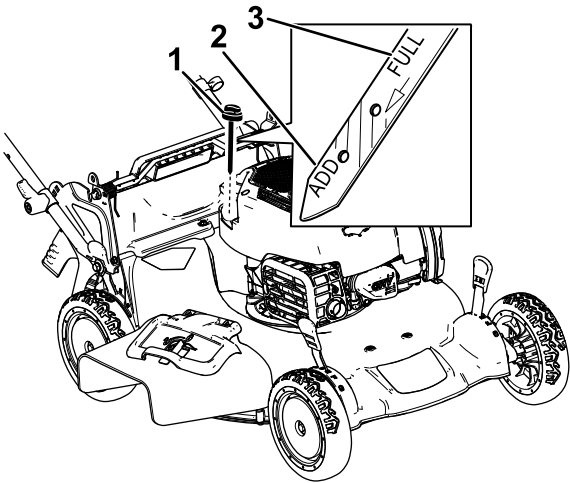

Figure 26
- 3. Remove the dipstick by rotating the cap counterclockwise and pulling it out (Figure 26).
10. Read the oil level on the dipstick (Figure 26).